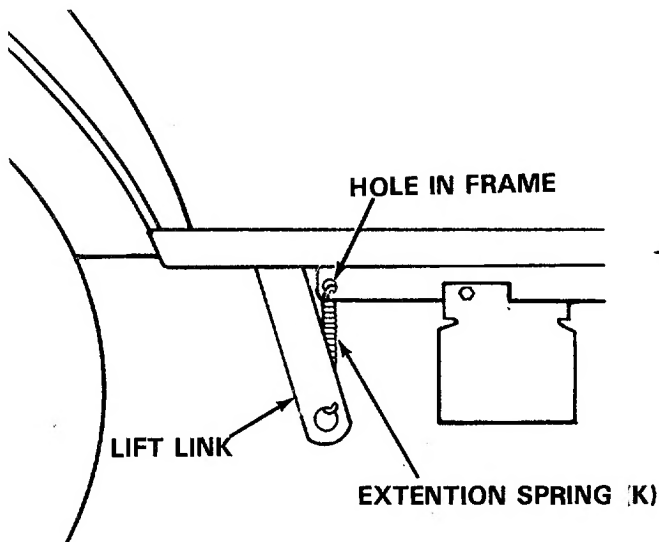

FIGURE 15
28. If there are holes provided in the tractor frame, hook the lift links up out of the way using the four extension springs (K). See figure 15.